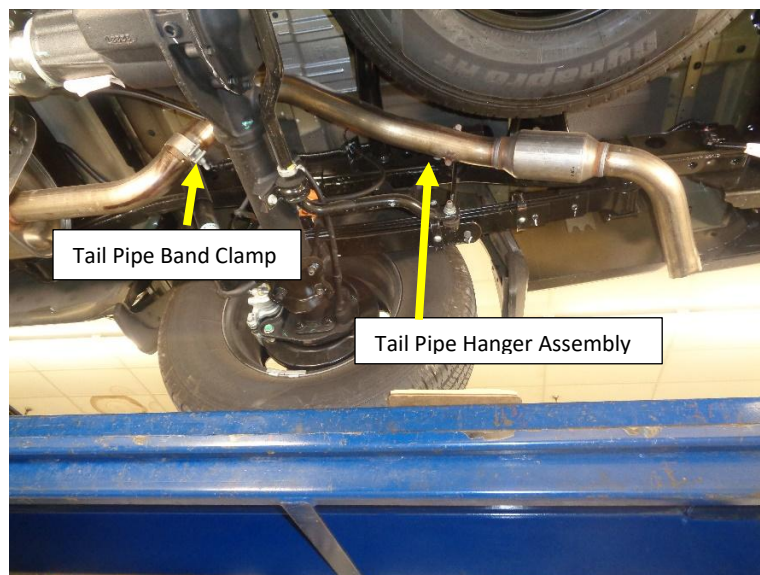

Figure.1
3. Remove the M8 bolt from the tail pipe hanger assembly bolted to the frame just over the axle . **Fig.1**
4. Remove the rubber tail pipe hanger and remove the tail pipe. **Fig. 1**